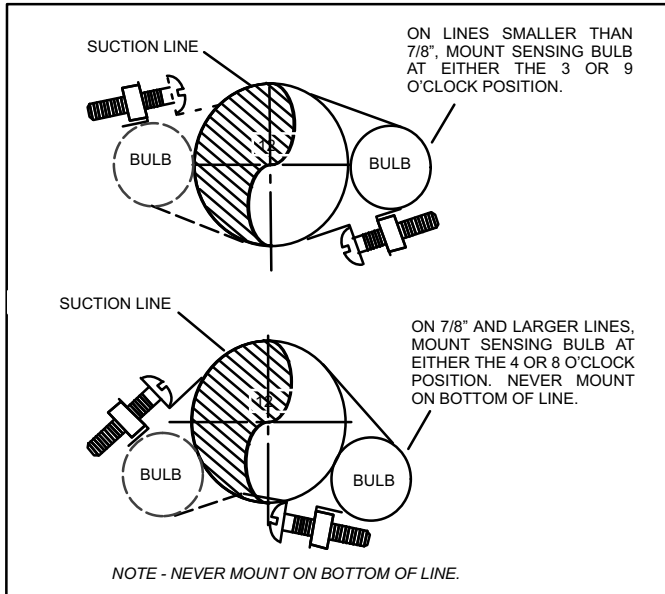

Figure 26. TXV Sensing Bulb Installation
6. Attach the suction line sensing bulb in the proper orientation as illustrated in figure 26 using the clamp and screws provided.